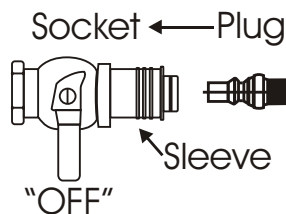

Fig. 22
1. Place the handle in the “OFF” position and push the sleeve back. The valve handle must be in the “OFF” position to make the connection. (Fig. 22)